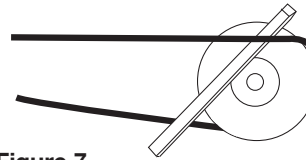

Figure 7
6. Always loosen tension enough to install belts without stretching, see Figure 7.